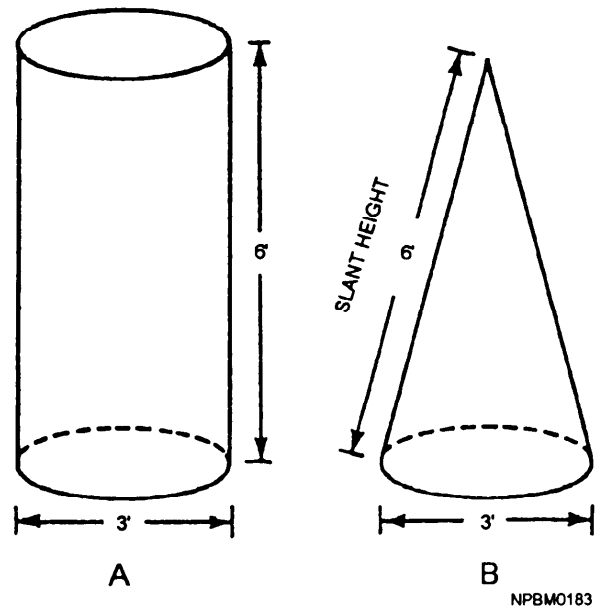

Figure 8-13.—Areas of cylinders and cones.
Example: Find the area of the side of the cylinder in view A of figure 8-13.
Example: Using the dimensions in figure 8-13, find the area of the cone.
The formula for finding the area of the side of a cone uses a new dimension—slant height (SH)—which is the distance from the edge of the base to the apex of the cone. See view B of figure 8-13. The area may be found by multiplying half the slant height by the circumference of the base.